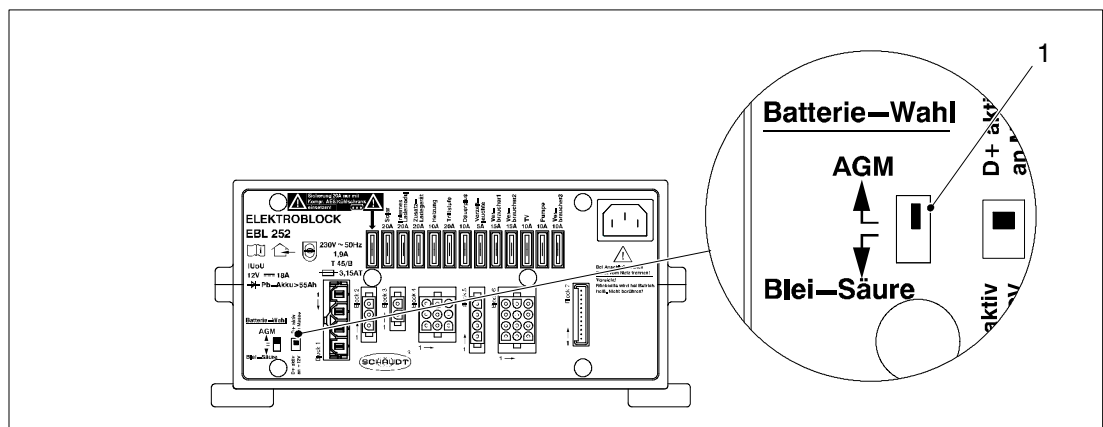

Fig. 4 Battery selector switch
- ▶ Move the battery selector switch (Fig. 4, Pos. 1) to the correct position using a thin object (e.g. a ballpoint pen):